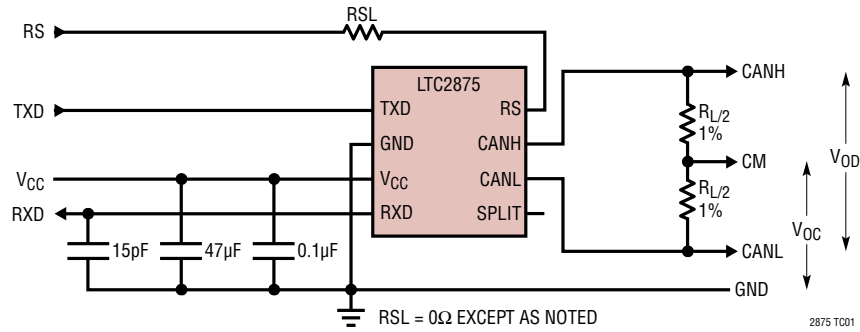

Figure 1. All Electrical Characteristic Measurements
| $V_{O(R)}$      | Bus Output Voltage (Recessive)   | $V_{CC} = 5\text{V}$ , No Load (Figure 1)   | ●  | 2                    | 2.5  | 3        | V             |      |   |
|                 |  | $V_{CC} = 3.3\text{V}$ , No Load (Figure 1)   | ●  | 1.45                 | 1.95 | 2.45     | V             |      |   |
| $V_{OD(D)}$     | Differential Output Voltage (Dominant)                                       | $R_L = 50\Omega$ to $65\Omega$ (Figure 1)   | ●  | 1.5                  | 2.2  | 3.0      | V             |      |   |
| $V_{OD(R)}$     | Differential Output Voltage (Recessive)                                      | No Load (Figure 1)  | ●  | -500                 | 0    | 50       | mV            |      |   |
| $V_{OC(D)}$     | Common Mode Output Voltage (Dominant)  | $V_{CC} = 5\text{V}$ , (Figure 1)   | ●  | 2                    | 2.5  | 3        | V             |      |   |
|                 |  | $V_{CC} = 3.3\text{V}$ , (Figure 1)   | ●  | 1.45                 | 1.95 | 2.45     | V             |      |   |
**ELECTRICAL CHARACTERISTICS** The ● denotes the specifications which apply over the full operating temperature range, otherwise specifications are at  $T_A = 25^\circ\text{C}$ .  $V_{CC} = 3.3\text{V}$  or  $5\text{V}$ , Figure 1 applies with  $R_L = 60\Omega$ ,  $R_S = 0\text{V}$ , TYP values at  $V_{CC} = 5\text{V}$  unless otherwise noted. (Note 2)
**SWITCHING CHARACTERISTICS** The ● denotes the specifications which apply over the full operating temperature range, otherwise specifications are at  $T_A = 25^\circ\text{C}$ .  $V_{CC} = 3.3\text{V}$  or  $5\text{V}$ , Figure 1 applies with  $R_L = 60\Omega$ ,  $C_L = 100\text{pF}$ ,  $R_{SL} = 0\Omega$ ,  $R_S = 0\text{V}$ , TYP values at  $V_{CC} = 5\text{V}$  unless otherwise noted. (Note 2)
The driver features adjustable slew rate for improved EME performance. The slew rate is set by the amount of current that is sourced by the RS pin when it is pulled below approximately 1.1V. This allows the slew rate to be set by a single slew control resistor RSL in series with the RS pin (Figure 1).